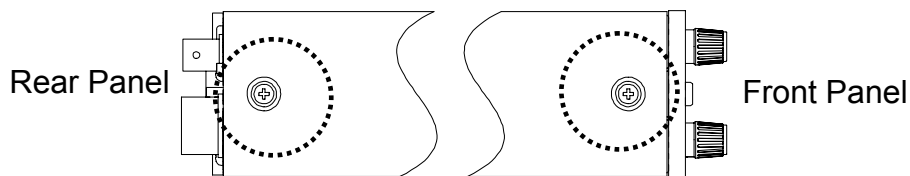

Fig.7-6
2. Remove the cover using two screws (M3) on the top face (Fig. 7-6).